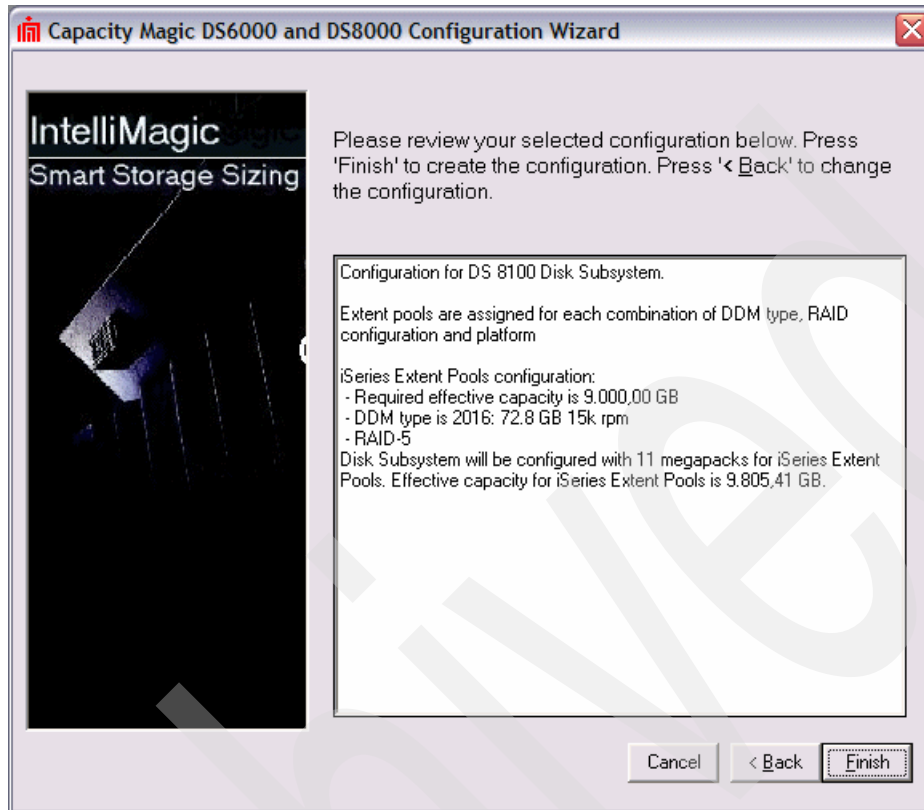

Figure 3-17 Reviewing the selected configuration
8. Next, review the selected configuration and click **Finish** to continue, as shown in Figure 3-17.